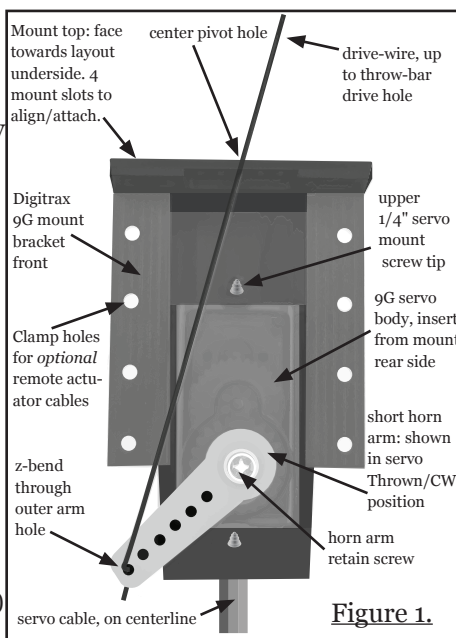

Figure 1.
1. Place the DSXSV9 servo *without horn arm* on the rear side of the mount bracket with the wires away from the mount top, as shown in figure 1 . Use two larger head 1/4" long screws from horn arm hardware bag to attach servo to mount.
3. Poke through the z-bend end of e.g. thin 0.6mm drive-wire into the outer hole of the short horn arm, then place the wire free tip through the center pivot hole in the plastic mount base, as shown in figure 1.